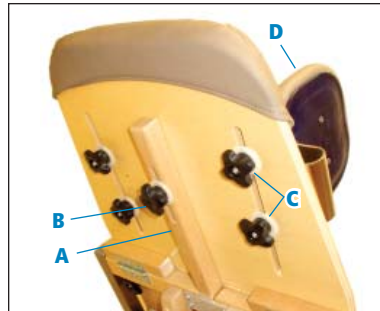

Figure 7a
Lift the headboard, slide the cleat (A) into frame slot, and tighten the cleat knob (B) (see Figure 7a).